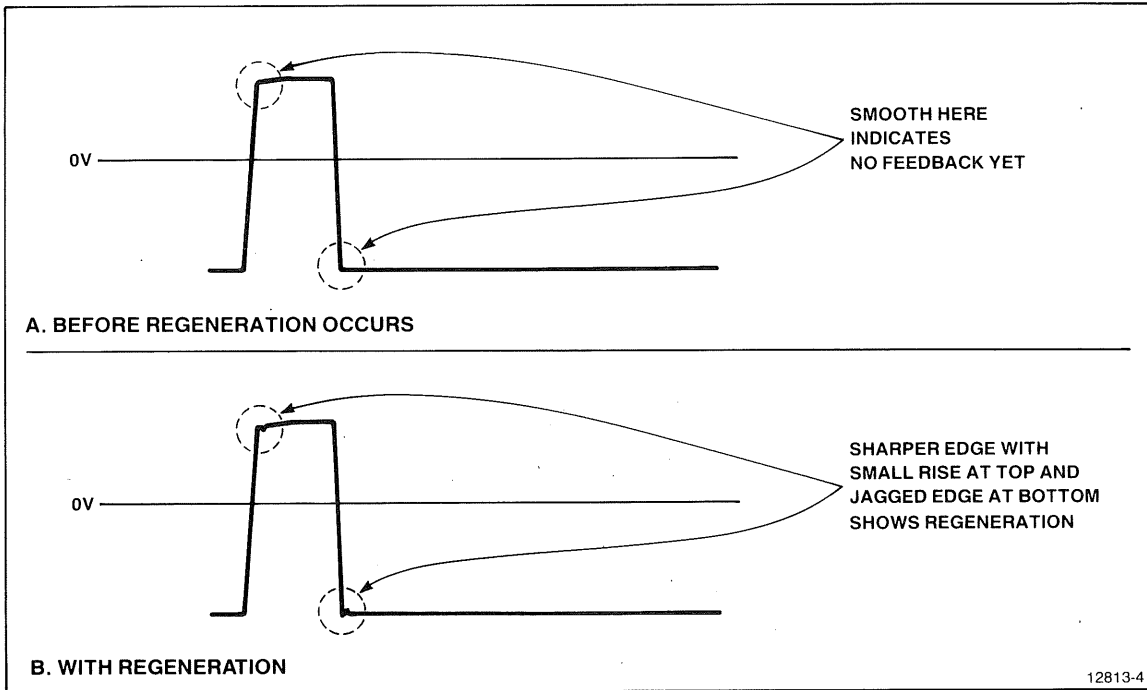

Figure 3-4. Base Waveforms Showing Regenerative Circuit Working.
- b. Slowly turn the autotransformer up to 120 V while monitoring the switcher waveform on channel 2. (Refer to Figure 3-4 for proper switcher waveform as the autotransformer is turned up.)